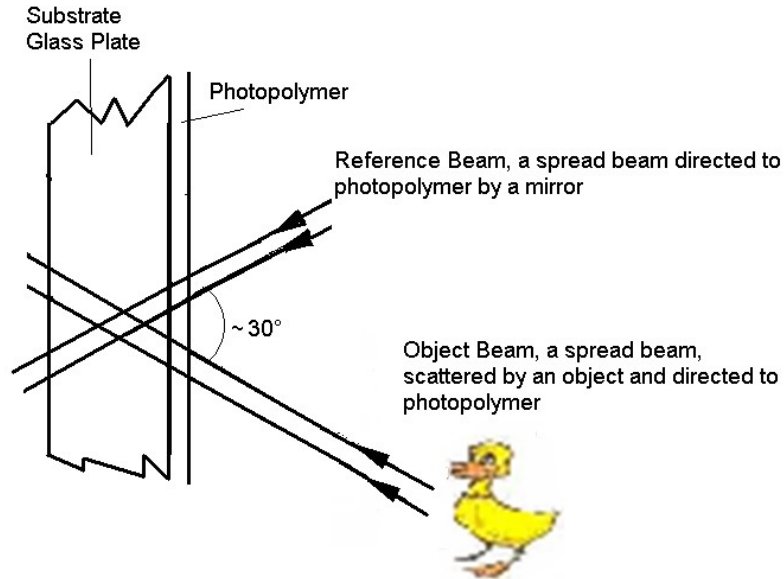

Figure 5 Schematic of transmission hologram recording
- 4) Adjust flat mirror and plate holder until the angle between object beam and reference beam is about 30° as seen in Figure 5. Adjust the locations of plate, mirror and object so that the optical path distance is approximately the same from the beam expander (to achieve best coherence). Also, when remaining the previous conditions, let the plate as close as possible to the object to achieve better reflected object beam energy on the plate.